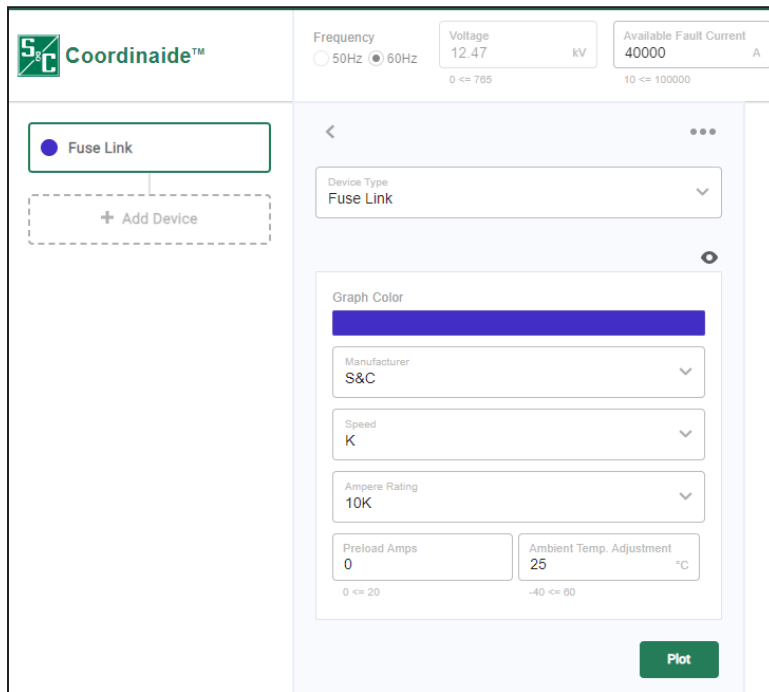

Figure 6. The Device Parameters dialog box on the *Program* screen.
STEP 2. Select the protective device to be added and enter the parameters for that device in the Device Parameters dialog box. See Figure 6.